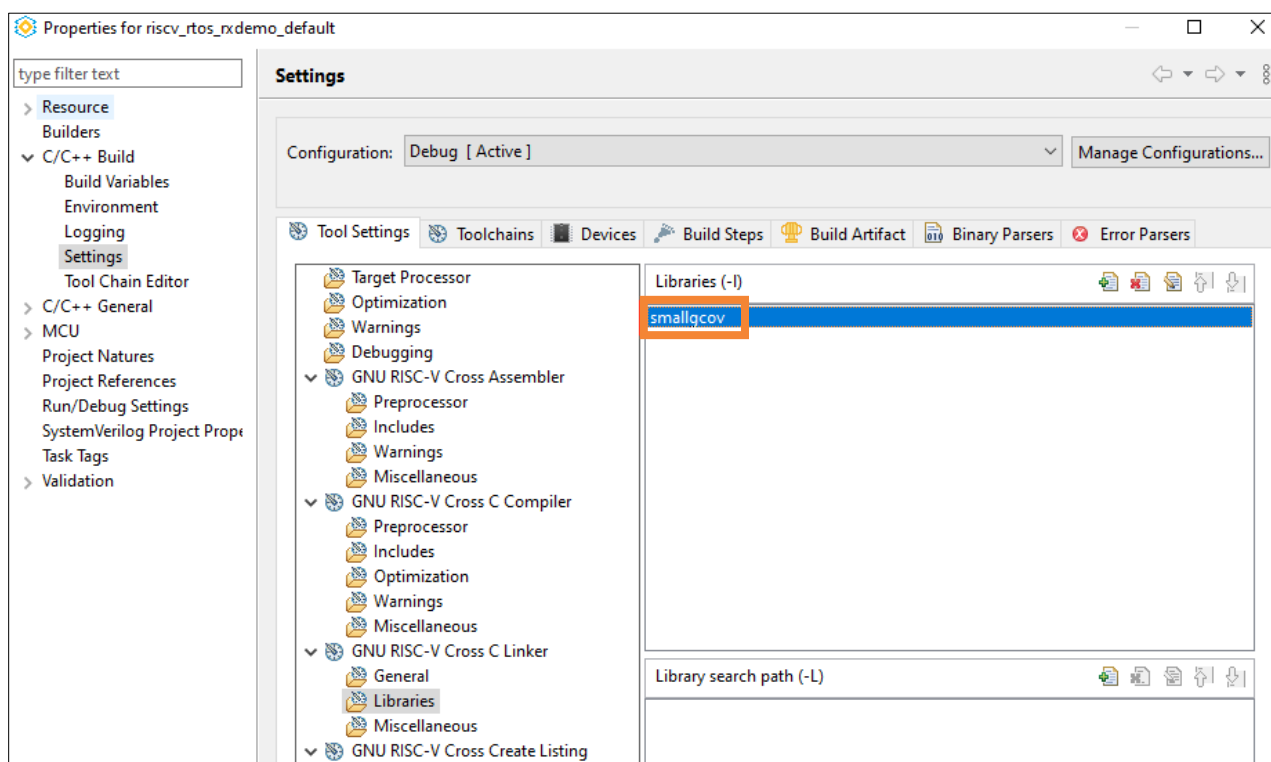

Figure 5.25. smallgcov Library
5. Select **GNU RISC-V Cross C Linker > Libraries**. Add the library, `smallgcov` (Figure 5.25).